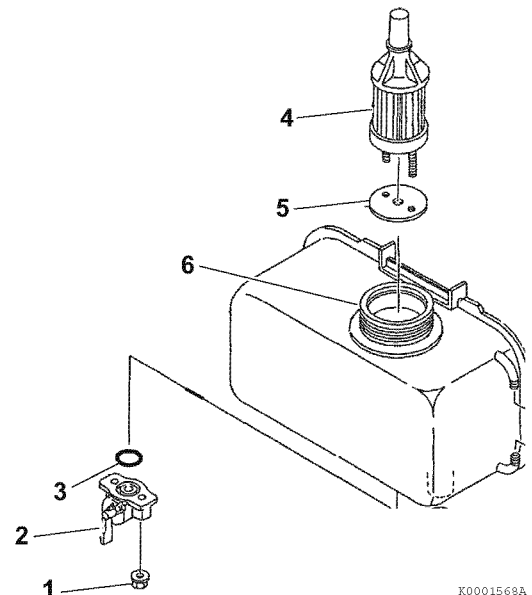

Figure 5-12
3. Loosen the nuts (1, **Figure 5-12**) on both sides of fuel shut off valve (2, **Figure 5-12**).
4. Remove and discard the O-ring (3, **Figure 5-12**).
5. Pull the outlet fuel filter (4, **Figure 5-12**) and gasket (5, **Figure 5-12**) out of the fuel tank filler port (6, **Figure 5-12**).
6. Install a new outlet fuel filter (4, **Figure 5-12**) and gasket (5, **Figure 5-12**) through the fuel tank filler port (6, **Figure 5-12**) and seat in the fuel tank.
7. Install a new O-ring (3, **Figure 5-12**) on the fuel shut off valve (2, **Figure 5-12**) and fasten the assembly to the fuel tank with the fuel shut off valve nuts (1, **Figure 5-12**).